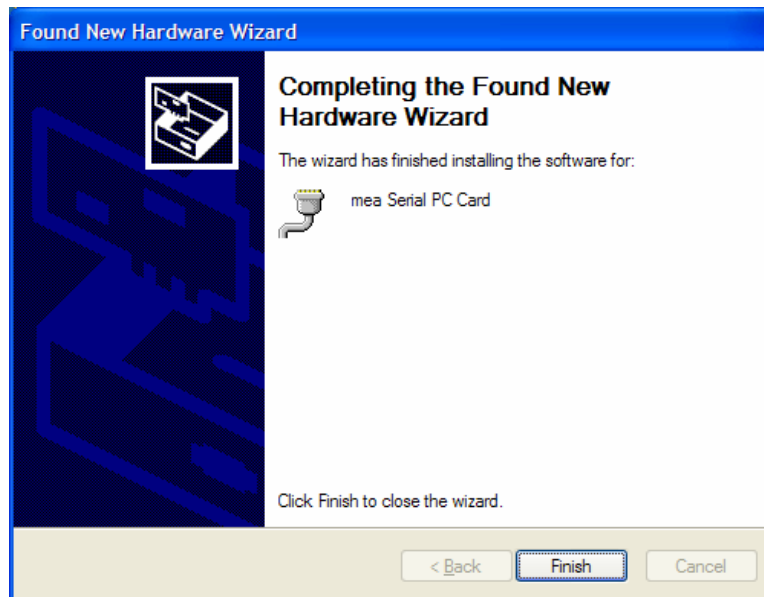

Figure 34. Found New Hardware Wizard - Complete
7. The Found New Hardware Wizard Complete dialog box will appear as shown in Figure 34. Click on the **Finish** button.